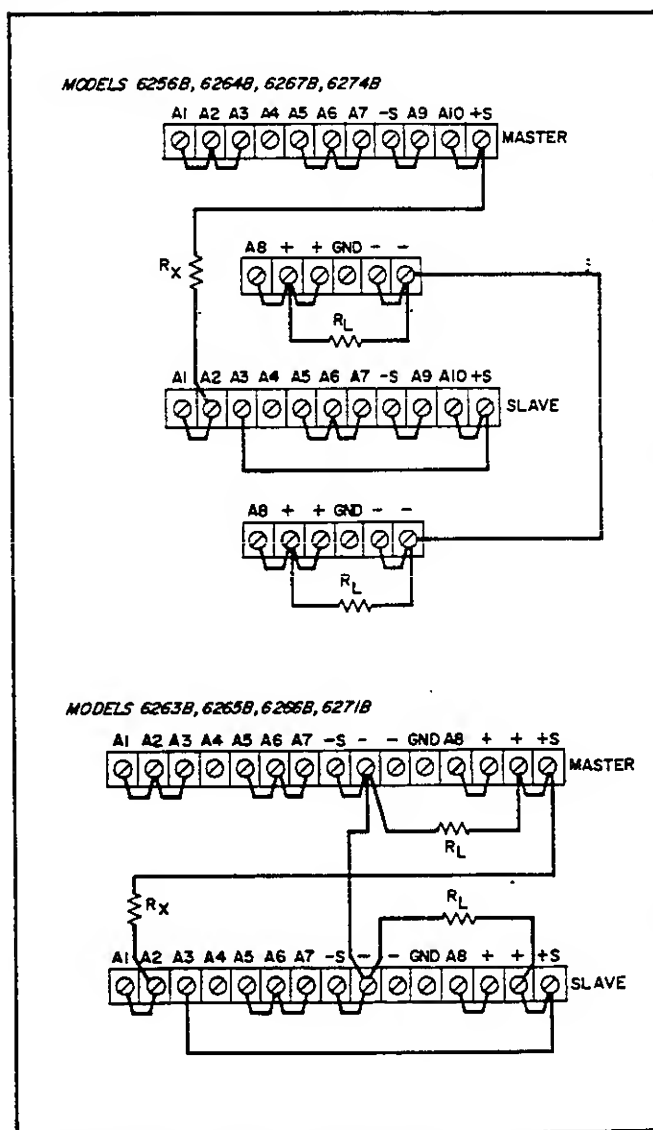

Figure 3-12. Auto-Tracking Operation of Two Units
**3-60** Figures 3-12 and 3-13 show the rear panel interconnections required to operate two or three supplies in the auto-tracking mode. This mode of operation allows two or three supplies that share a common negative output bus to power separate loads and have their outputs simultaneously programmed by the voltage and current controls of a master supply. Unless their outputs are to be equal, the supply that is to have the greatest output voltage must be selected as the master. The output voltage of each slave supply remains a constant percentage of the master's with the percentage for each slave established by that slave's voltage control settings and the choice of its